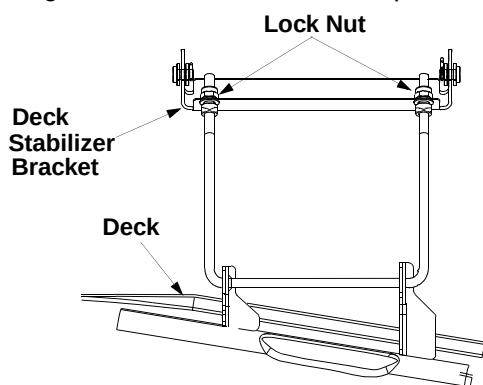

Figure 9
- Locate the two lock nuts on the opposite side of the stabilizer bracket. See Figure 9. Tighten the lock nuts to raise the front of the deck; loosen the lock nuts to lower the front of the deck